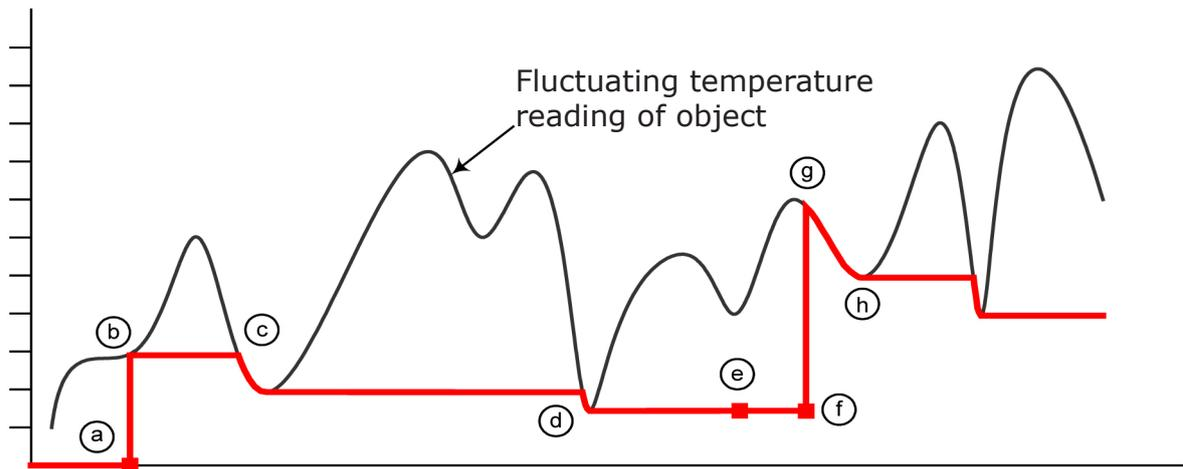

Fig. 7-4 Graphical representation of typical **Valley** temperature measurement
**Valley** temperature measurement is the inverse of Peak temperature measurement, in that it allows you to monitor the lowest temperature value rather than the highest. Temperature measurement starts when the trigger is pressed in and continues until the trigger is released (See Fig. 7-4).